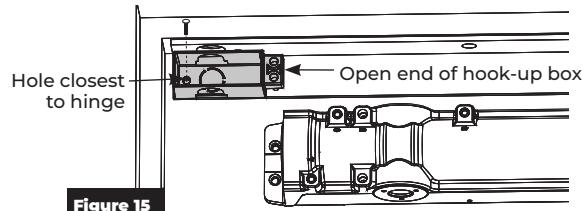

Figure 15
10. With the opening of the hook-up box facing away from the hinge, fasten hook-up box to 28PTPB angle bracket using provided screw through the hole in angle bracket closest to the hinge. **Do not fully tighten screw at this time.** (Figure 15)